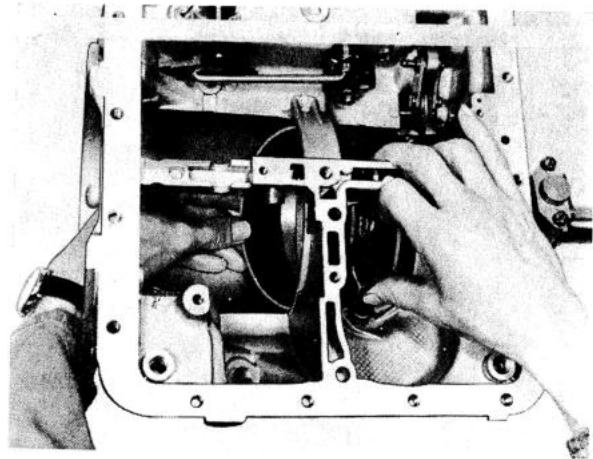

Fig. 4-101. Installing rear brake band
- Place the rear brake band in position in the case, see Fig. 4-101. Then fit the rear servo assembly. Tighten only the rear (short) servo screw since the long one also locates the centre support.